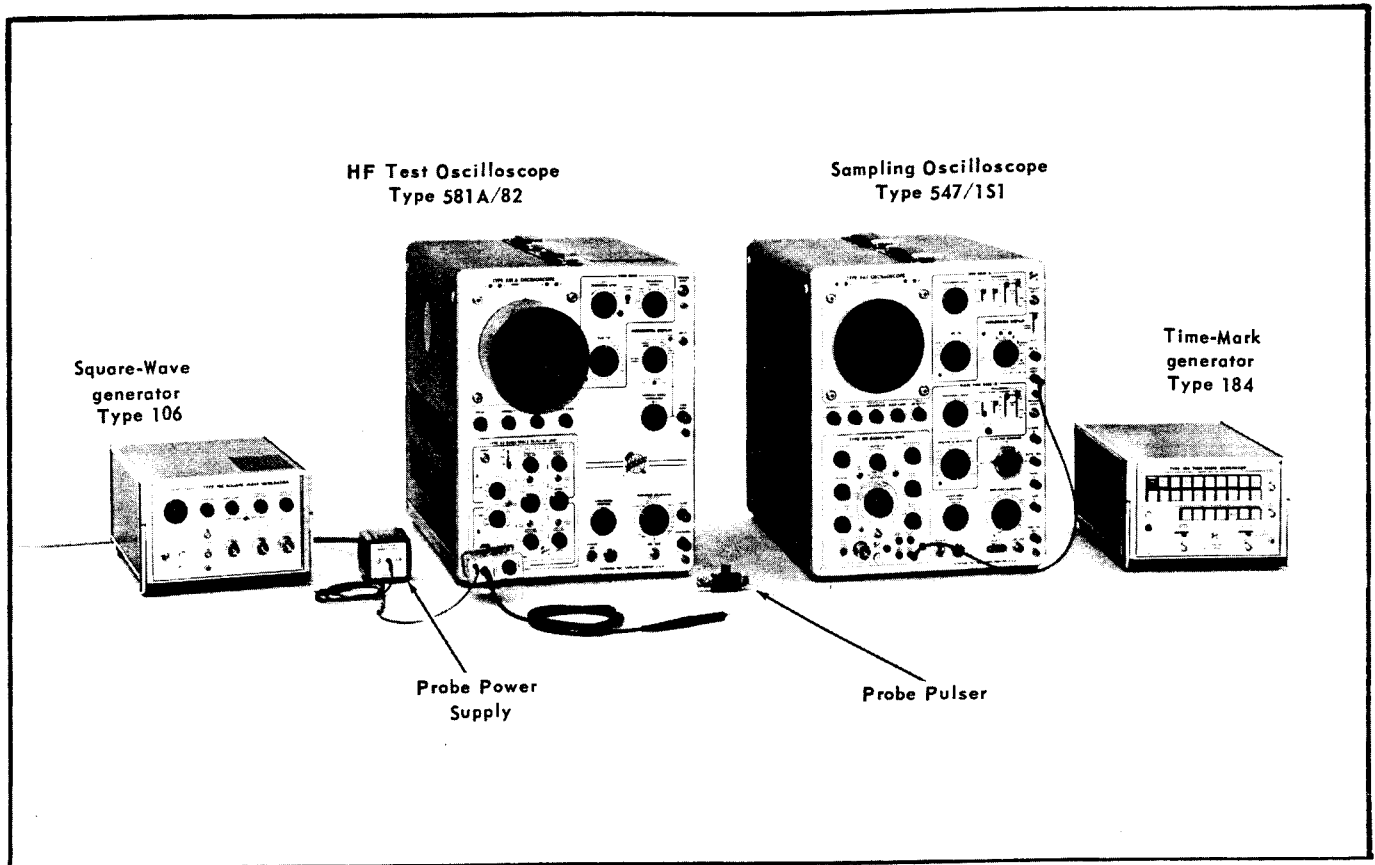

Fig. 5-8. Initial test equipment setup for steps 7 through 9.
d. Set the instrument controls as given following Fig. 5-8.